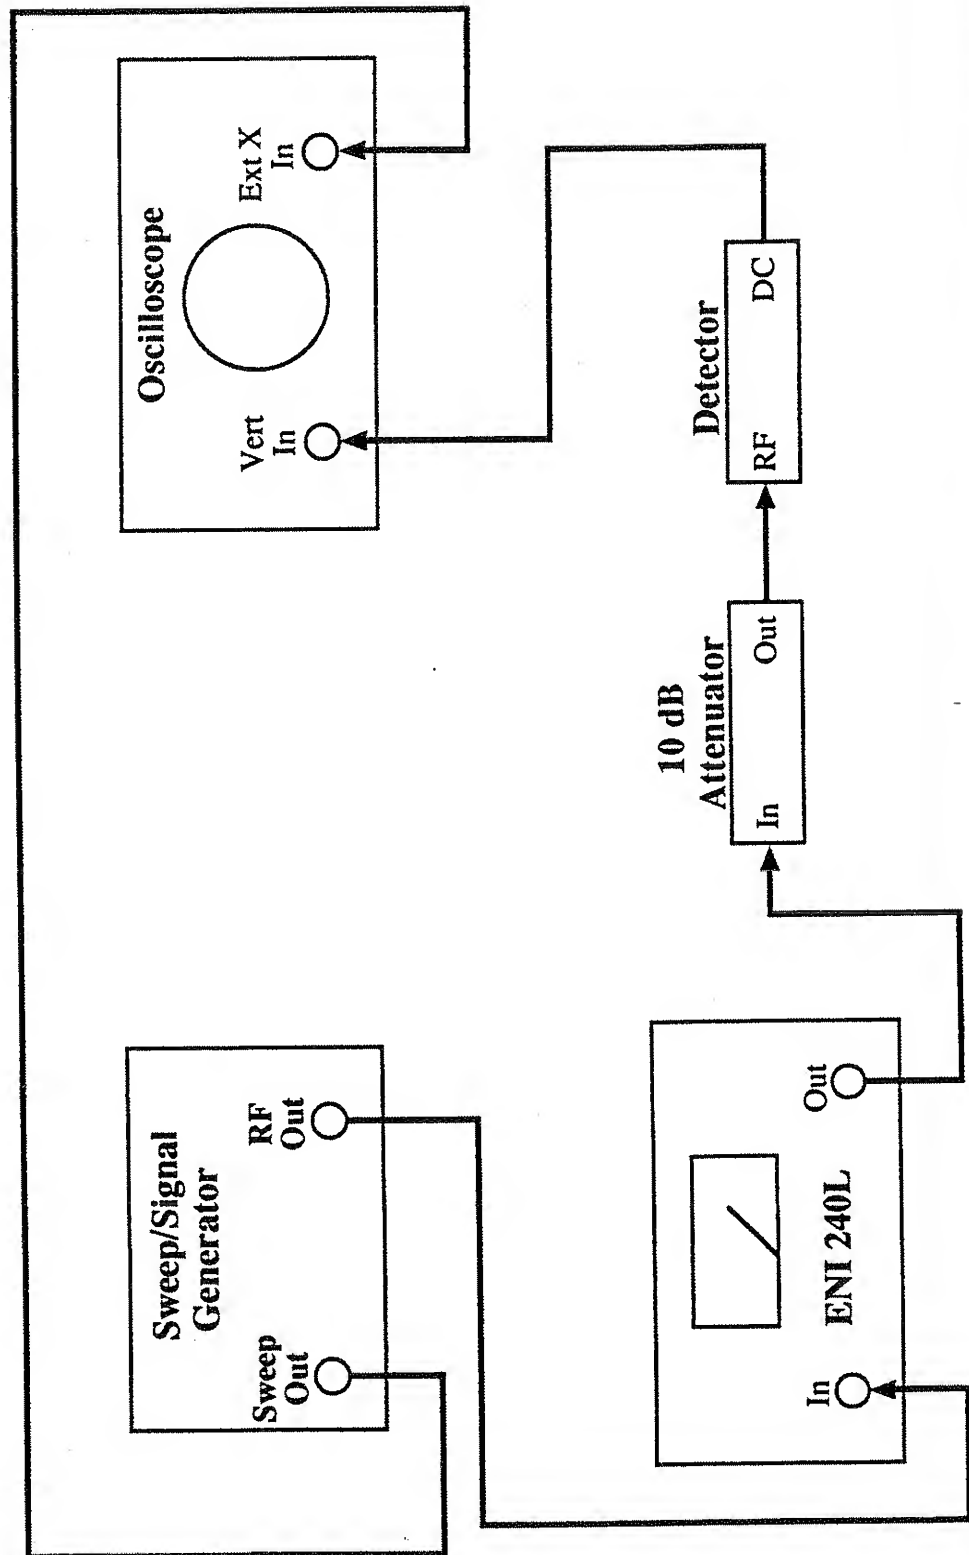

Figure 2
Connect the equipment as shown in Figure 2, then proceed as follow:
- (g) Reconnect the 240L into the test set-up of Figure 2.